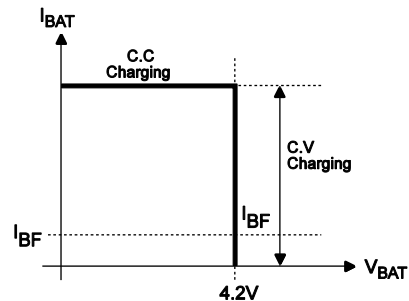

Figure 2—MP26058 Typical Charging Profile
Figure 2 below shows the typical charging profile for the MP26058. It begins charging at the constant current of the programmed value (I_{CHG}). This is referred to as Constant Current (CC) mode. Once the battery voltage reaches 4.2V, the charger will operate in the LDO mode to keep the battery is fully charged. The charge current drops during LDO mode, and the battery full indication is set when the charge current reduced to the preset value based on R_{BF} . After 262144 cycles of continuous